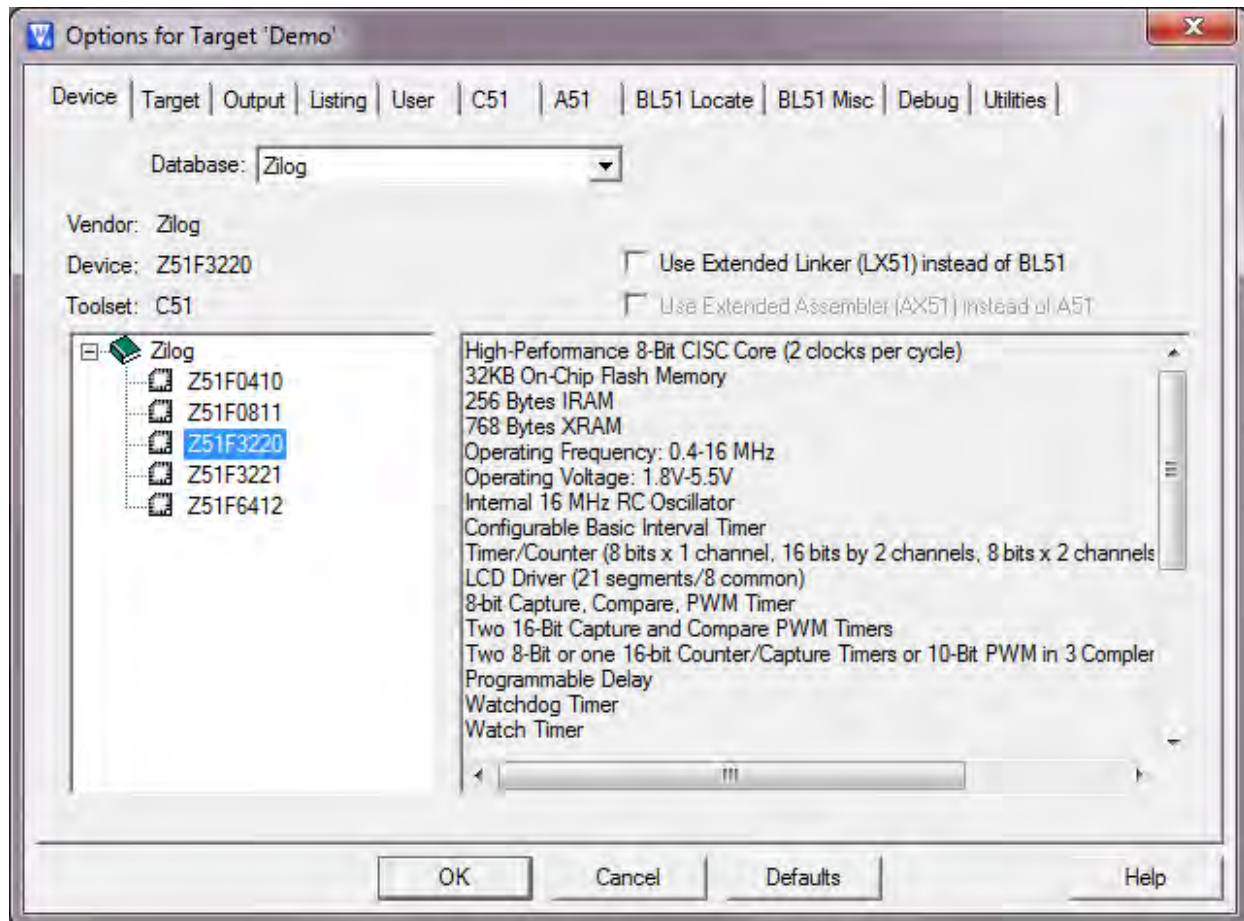

Figure 24. Selecting the Target
5. In the Options for Target 'Demo' dialog that appears, click the **Device** tab and ensure that your target is properly selected for your project, as illustrated in Figure 24.